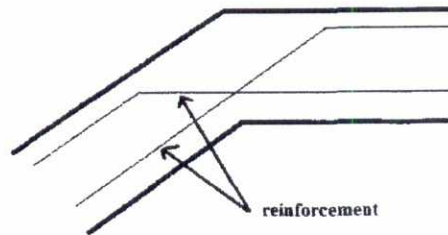

Figure 1.
- c. Explain the scissor joint in staircase reinforcement. (figure1) 04